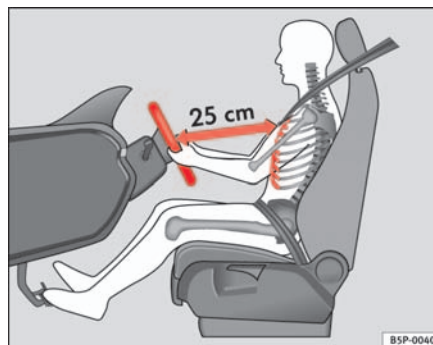

Fig. 93 Proper sitting position for driver
- Adjust the steering wheel in this way until the correct position is set ⇒ fig. 93.
- Adjust the driver seat or steering wheel so that there is a distance of at least 25 cm between the steering wheel and your chest ⇒ page 125, fig. 93. If you fail to observe the minimum distance, the airbag will not protect you. Risk of fatal injury.